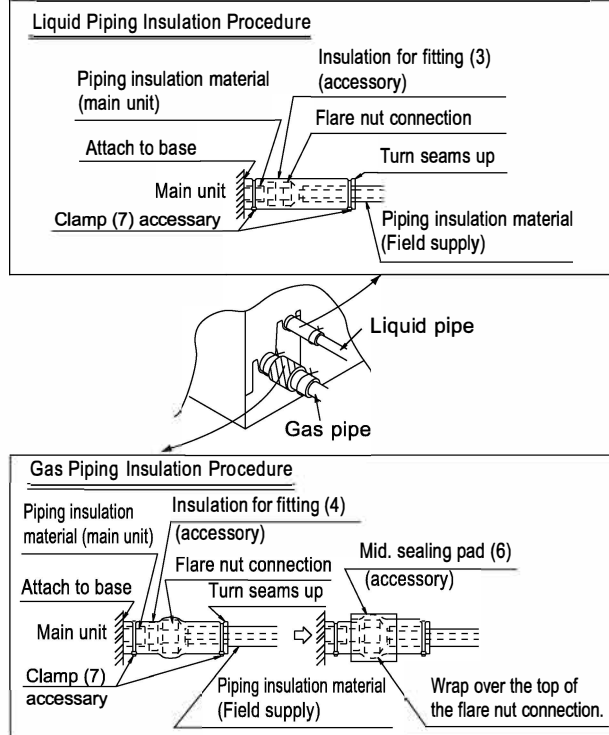

Fig. 8
(2) After the work is finish sure to check that there is no gas leak.
(3) After checking the gas leaks be sure to insulate the pipe connections referring to Fig. 8.
- Insulate using the insulation for fitting (3) (4) included with the liquid and gas pipes. Besides, make sure the insulation for fitting (3) (4) on the liquid and gas piping has its seams facing up.